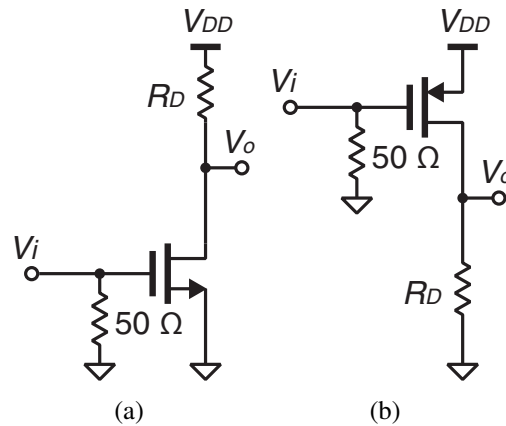

Figure 2: (a) NMOS and (b) PMOS common-source amplifiers with a  $50\text{-}\Omega$  input impedance.
1. Implement the common-source amplifier on the breadboard. Connect a 50- $\Omega$  resistor across the input and the ground as shown in Figure 2 . This resistor is important for the voltage reading of the signal generator to be correct. Most of the signal generators have a 50- $\Omega$  output impedance and the voltage reading is correct only if its load is 50  $\Omega$ . **You will need this 50- $\Omega$  termination many times in future labs when you use a signal generator although it won't be explicitly shown in lab manuals.**